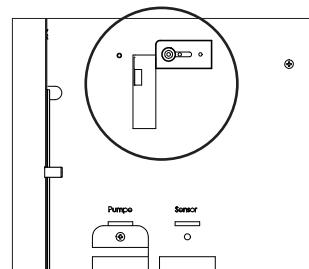

Fig. 6: Upper cover plate in original position
2. Undo the screw on top of the protective plate next to the microswitch. Push the plate to the left to cover the microswitch, then re-tighten the screw (Figs. 6 and 7).